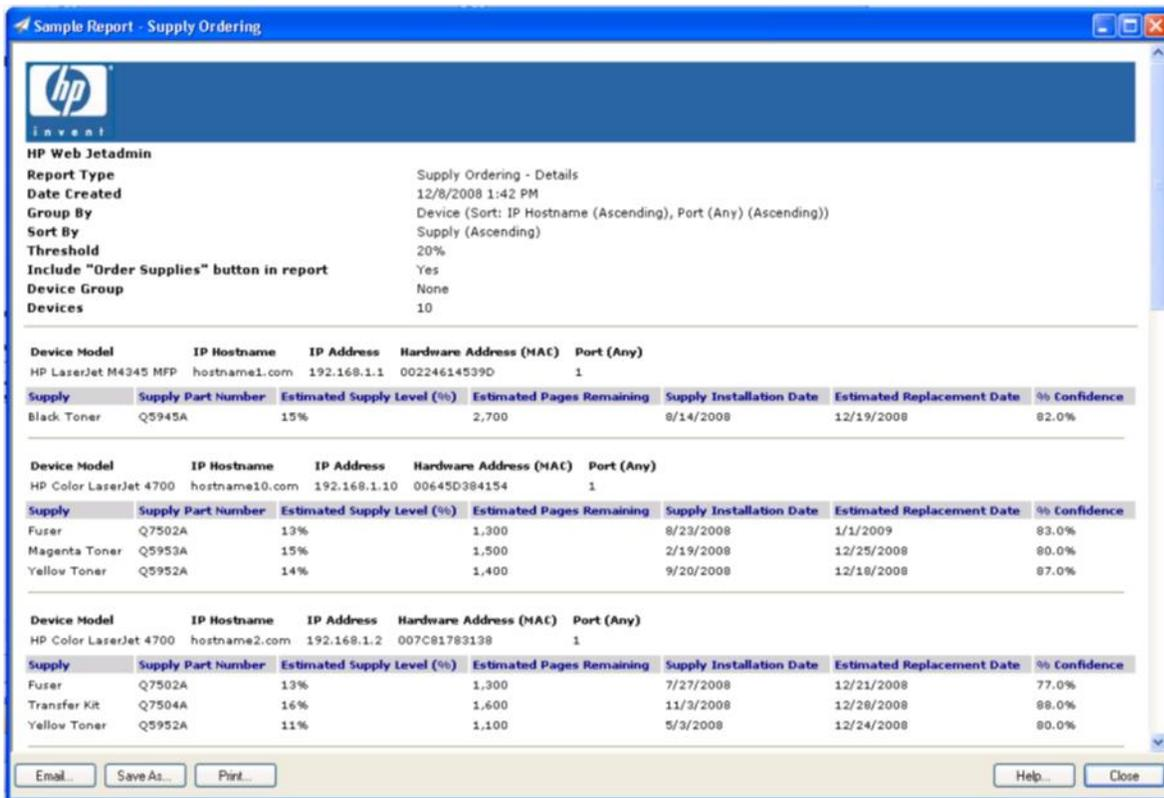

Figure 34: Supply Ordering report
- Under **Report Data**, select the specific data relating to supply ordering that appears as columns in the report (Figure 34). The following are the available items: